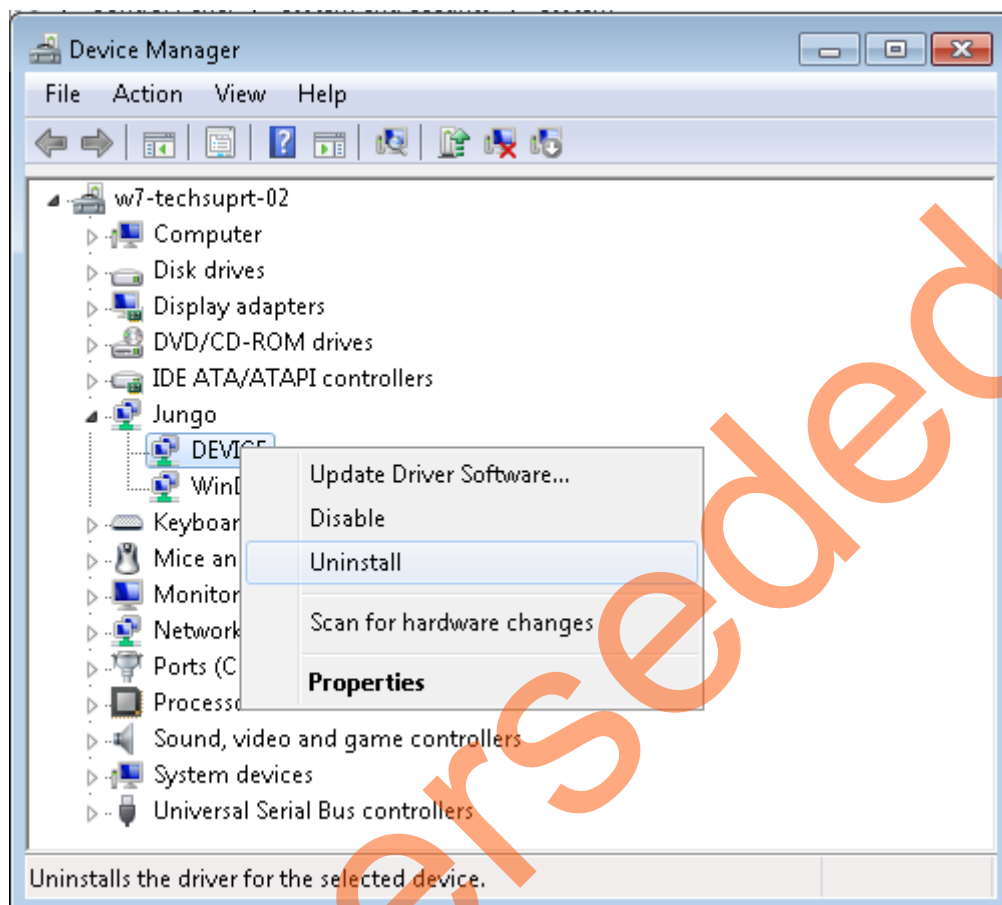

Figure 51 • Device Uninstall
- a. To uninstall the previous Jungo drivers, go to device manager and right-click on **DEVICE** as shown in Figure 51. The **DEVICE** uninstall window is displayed.